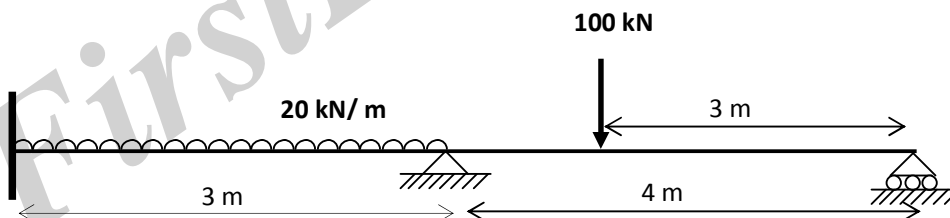

Fig.5
8. Analyse the continuous beam shown in Fig.5, using stiffness method.